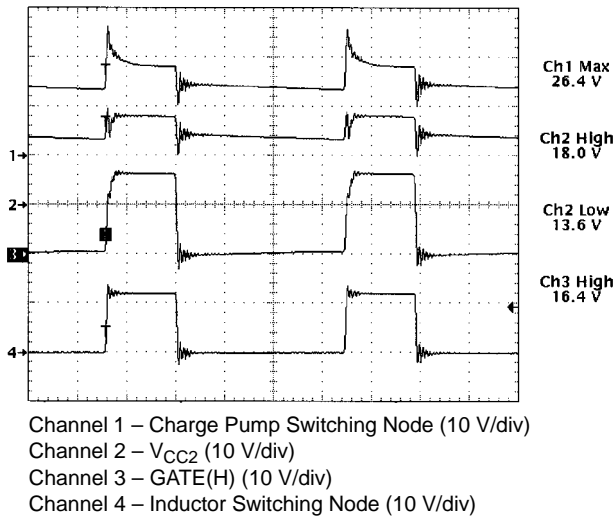

Figure 9. V_{CC2} Charge Pump Operation (1.0 μs/div)
In order to fully turn on the high side NFET, a voltage greater than the input voltage must be applied to V_{CC2} to bias the GATE(H) driver. Referring to the application diagram on page 2; a simple charge pump circuit can be implemented for this purpose through capacitor C6, resistor R1, and diodes D1 and D2. The input voltage, less the drop in D1 is stored in C6 during the off-time period. When the high-side FET turns on, it drives the inductor switching node and C6 high causing Schottky diode D1 to reverse bias. The charge stored in C6 is transferred to V_{CC2} through R1. Zener diode D2 clamps the V_{CC2} voltage to 18 V to prevent the V_{CC2} from exceeding its 20 V Max rating (see Figure 9).